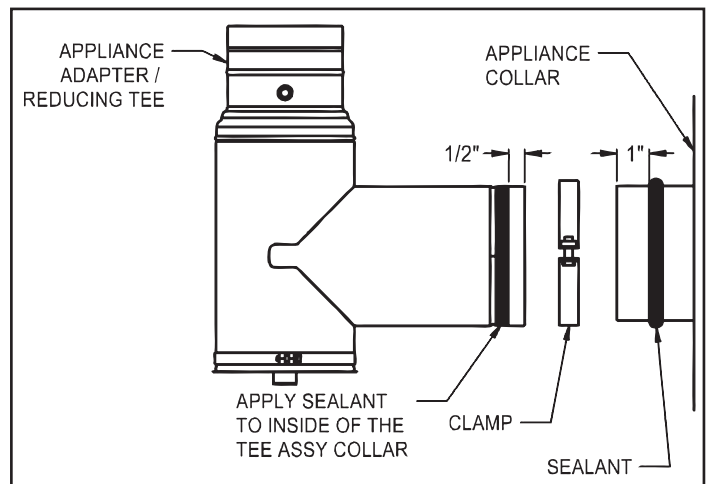

Figure 1
1. Apply a bead of sealant to appliance collar approximately 1" from end of collar. (See Figure 1)
2. Remove all oil and grease from the inside of the appliance reducing tee and apply a bead of sealant to inside of reducing tee 1/2" from end. (See Figure 1)
5. Assemble clamp halves using the supplied 5/16" bolts and square nuts, and install the appliance clamp onto the reducing tee and tighten securely. (See Figure 1)